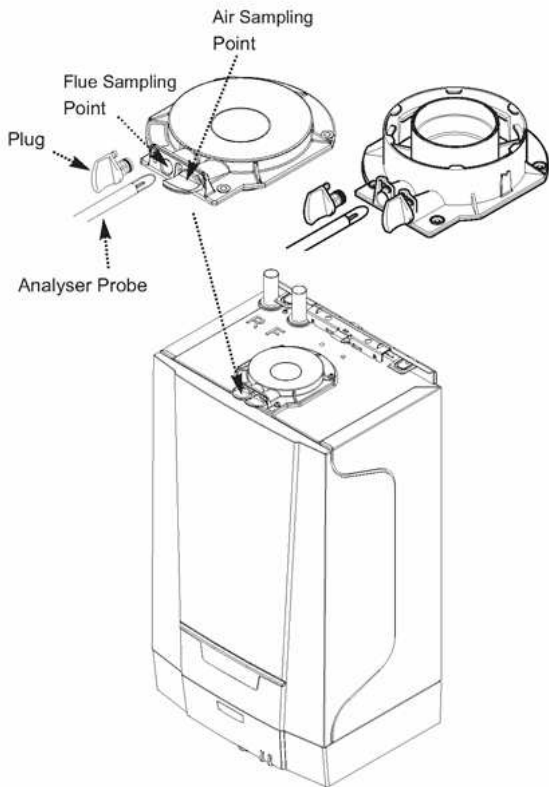

Fig. 42
5. Remove the plug from the flue sampling point (Fig. 42), insert the analyser probe and obtain the CO/CO₂ ratio. **This must be less than 0.004**. If the combustion reading (CO/CO₂ ratio) is greater than this, and the integrity of the complete flue system and combustion circuit seals has been verified, and the inlet gas pressure and gas rate are satisfactory either:-